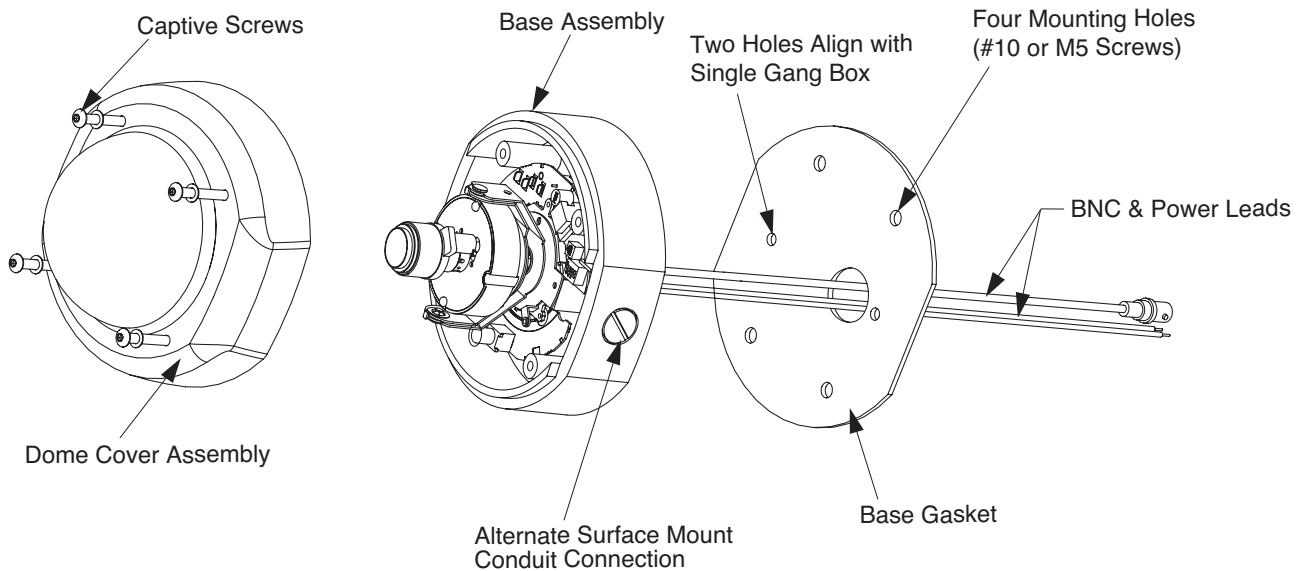

Figure 1
1. Using the special Allen wrench provided, remove the 4 tamper resistant screws located on the cover. The screws are captive and will remain with the cover. Refer to **Figure 1**.
Refer to **Figure 1**.